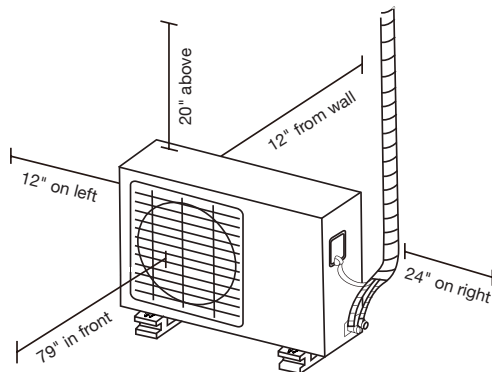

Figure 6: Minimum space requirements for outdoor unit
- Meets all spatial requirements shown in figure 6 below.